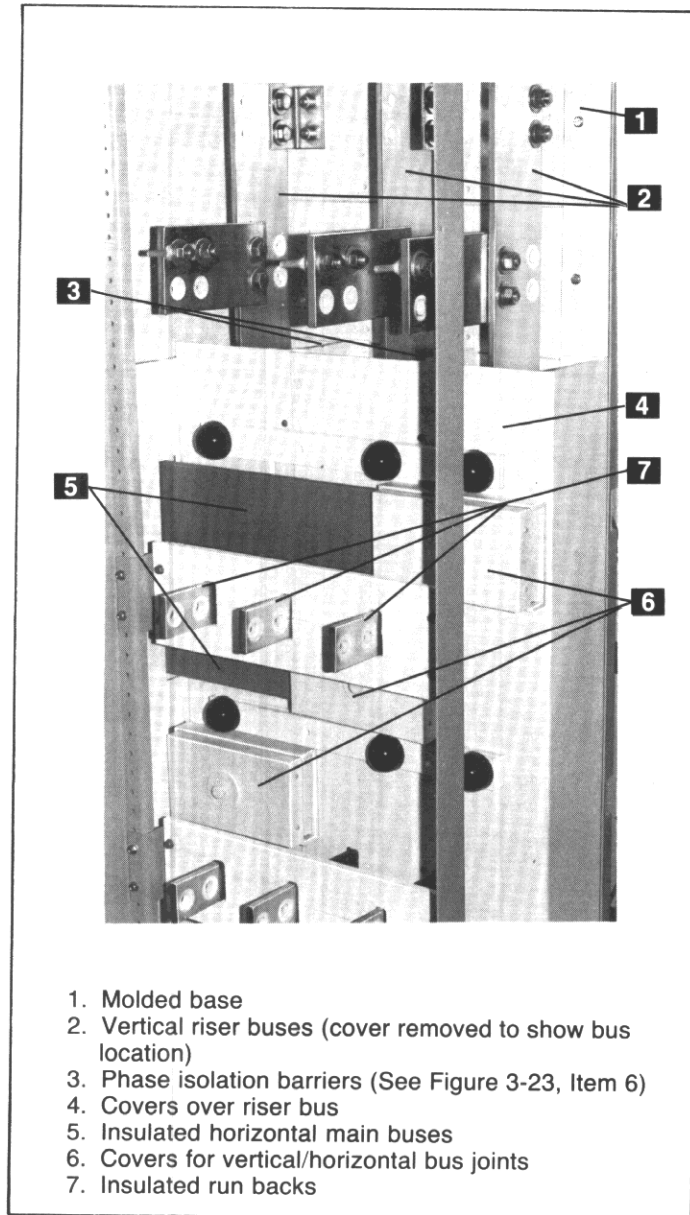

Fig. 3-26. Insul-Bar insulation/isolation bus system
Insulation and isolation of the vertical riser bus bars (2), Fig. 3-26, is provided by installing phase isolation barriers (3) between the bus bars and by mounting covers (4) over the bus bars. (The top portion of the vertical bus is shown with the cover removed.)